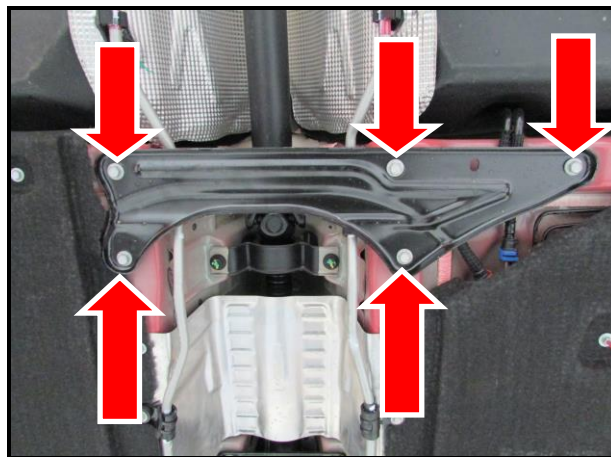

Figure 1
2. From under the vehicle, remove (x5) 13mm head bolts securing the center cross brace to the chassis (**Figure 1**). Set these parts aside as they will be re-used.